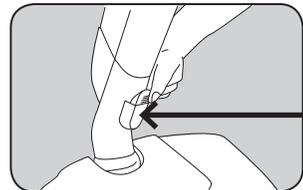

Fig. 3
1. Removing the wand from the power nozzle allows you to use cleaning tools for baseboard or ceiling cleaning. Turn the power nozzle and canister off. Then press the wand release button and pull out the wand (Fig. 3).